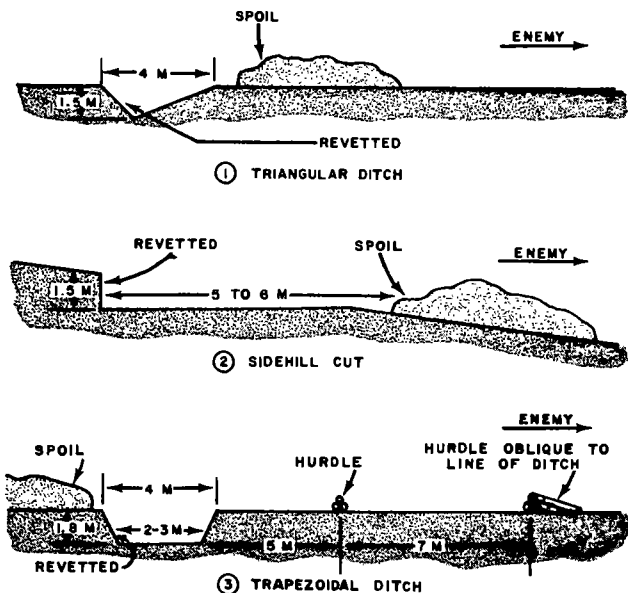

Figure 157. Types of antivehicular ditches.
- (1) *Triangular ditches* (1, fig. 157). These are relatively easy to build and will effectively delay tracked vehicles for a limited time since they can break down the slopes after repeated crossing attempts.
- (2) *Sidehill cuts* (2, fig. 157). Sidehill cuts are variations of the triangular ditch adapted to sidehill locations and have the same advantages and limitations.
- (3) *Trapezoidal ditches* (3, fig. 157). These require about double the construction time of triangular type ditches but are a much better obstacle. In a trapezoidal ditch as shown, the front end of the vehicle drops into the ditch as the center of gravity of the vehicles crosses the edge, and if the ditch depth exceeds the height of the vehicle wheels or treads, vehicles entering the ditch are trapped.